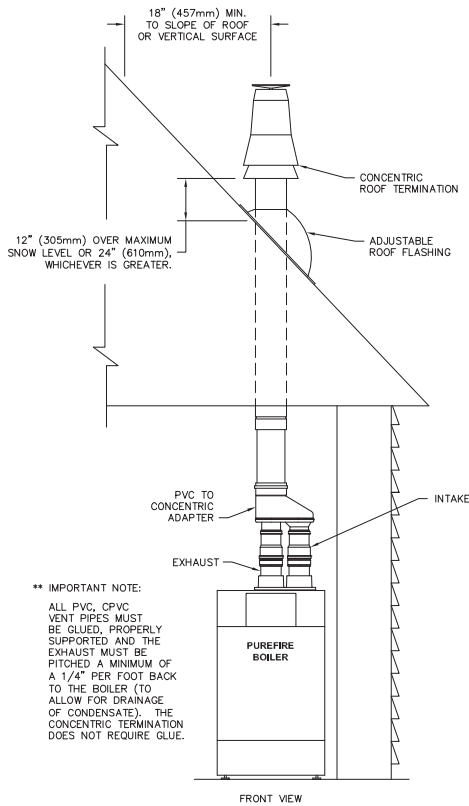

Figure 3.9: Concentric Vertical Vent Installation
- Figure 3.9 shows an approved vertical vent configuration using the optional concentric vent termination kit.